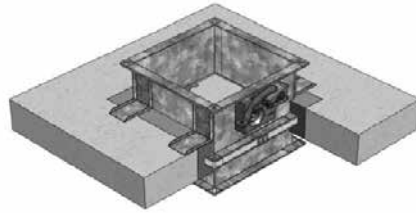

FIG.4
- 6 - Fill in the space between the floor and the damper using fireproof cement material (M10 cat. or higher) to restate resistance and insulation (fig.4)